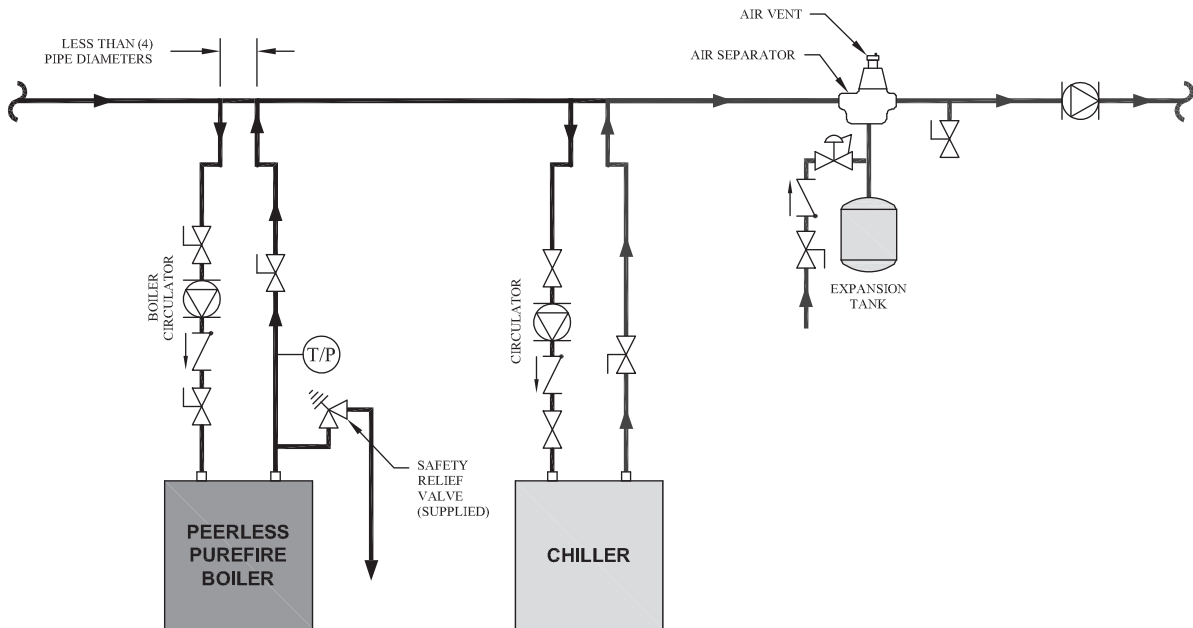

Figure 4.10: Boiler in conjunction with a Chilled Water System
- c. See Figure 4.10 for recommended system piping for chiller operation.